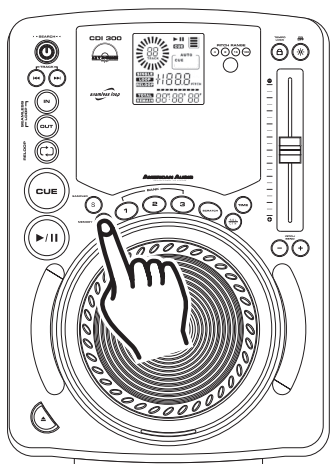
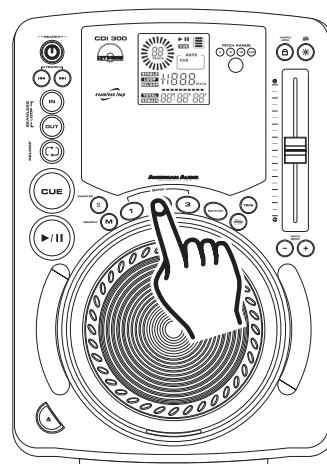

Figure 16
Figure 17
- 1) Create a Cue Point by one of the two means listed on page 16. Press the **MEMORY BUTTON (13)**, as in Figure 16. The red Memory Cue LED will glow indicating the store memory function has been activated. You may now press any one of the three **BANK BUTTONS (4)** to store your cue point into memory (Figure 17). After pressing one of the **BANK BUTTONS (4)**, the corresponding Bank Button LED will flash briefly. The LED of the **BANK BUTTON (4)** will remain lit indicating either a sample or cue point is stored in memory. The red Memory LED will turn off.